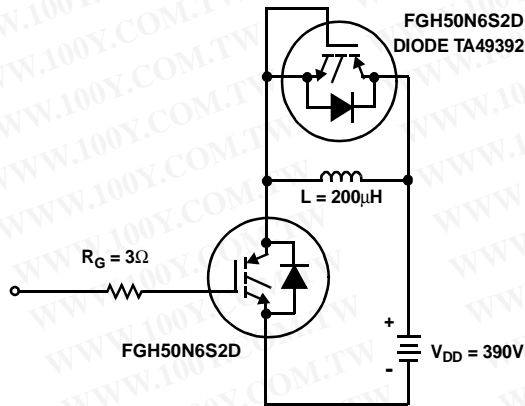

Figure 26. Inductive Switching Test Circuit
2. Values for two Turn-On loss conditions are shown for the convenience of the circuit designer.  $E_{ON1}$  is the turn-on loss of the IGBT only.  $E_{ON2}$  is the turn-on loss when a typical diode is used in the test circuit and the diode is at the same  $T_J$  as the IGBT. The diode type is specified in figure 26.